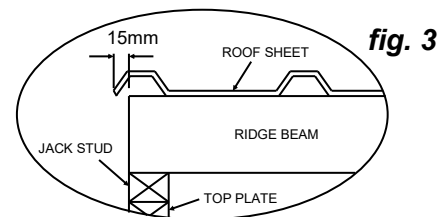

fig. 3
- Position the first Roof Sheet so that the top of the sheet is at the centre of the Ridge Beam and the side of the sheet over hangs the end of the Ridge Beam (**fig .3**). Using 1 x 50mm Clout, predrill and nail through the rib into the top corner. Repeat above and nail the lower corner ensuring 15mm overhang.